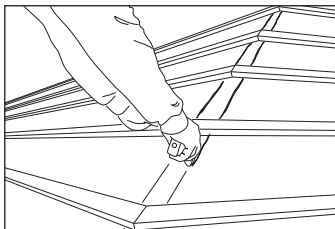

Fig. 1 – Neatly mitre battens
- 1 Lay roof underlay and battens in the normal manner, leaving a 5mm continuous gap in underlay either side of hip rafter if roof void is to be ventilated to recommendations of BS 5250. Mitre cut the ends of tiling battens and support on hip rafter (Fig. 1).